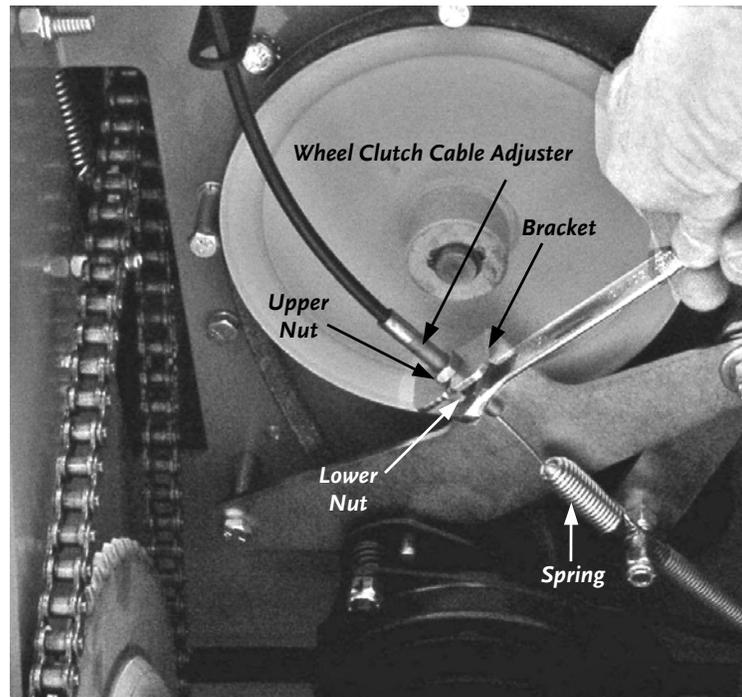

Figure 27
1. Find the Wheel Clutch Cable Adjuster on the Bracket on the underside of the machine (**Figure 27**).